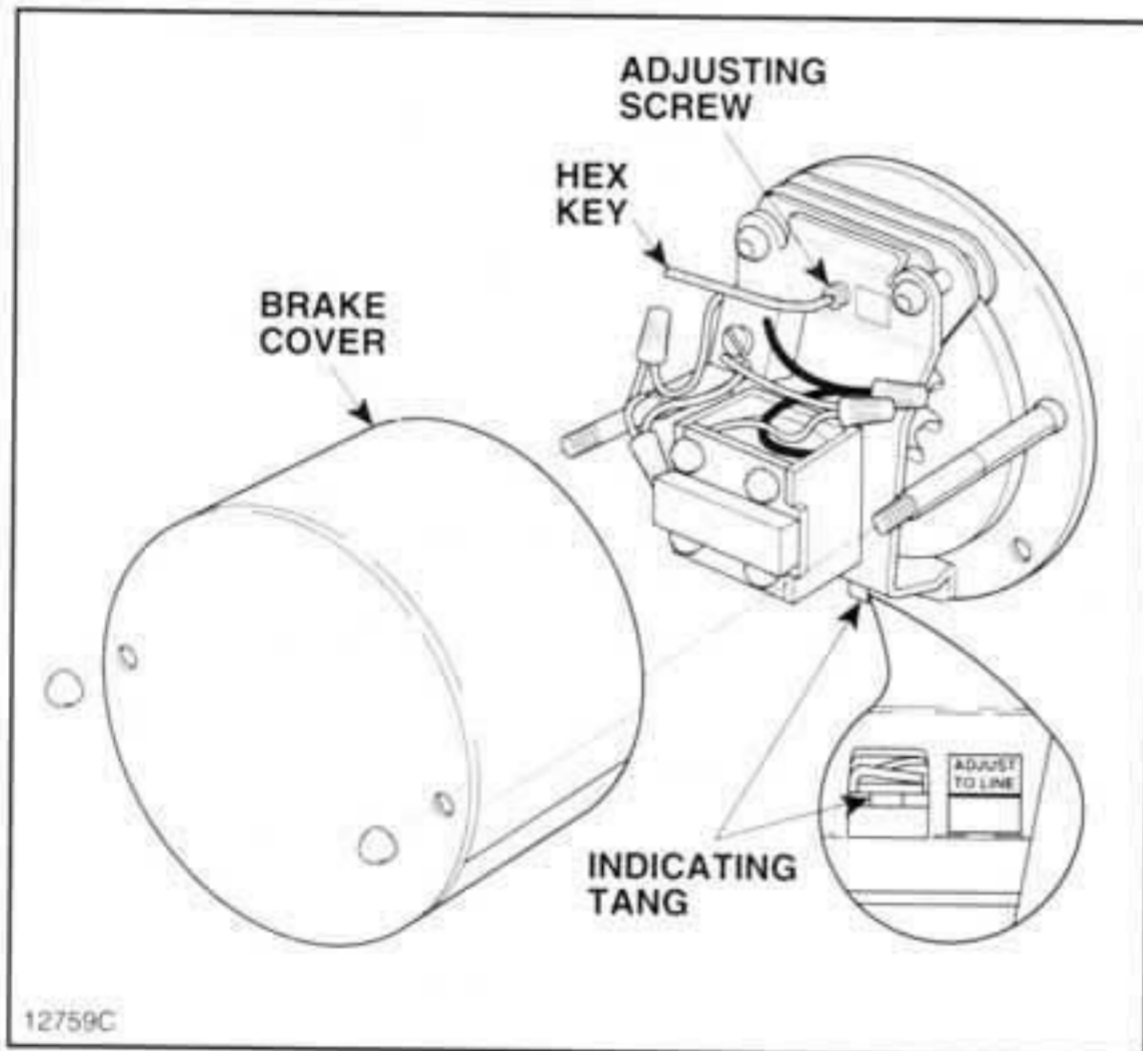

Figure 7-1A. Hoist Motor Brake - Later Version.
a. Examine position of indicating tang located below the solenoid coil (Figure 7-1A).
b. On the later version of the brake (Figure 7-1A), if the tang is below the line by more than 1/8", the brake should be adjusted to bring the top of the tang back up alongside the line on the adjust label.
c. Remove the hex key (1/8" size) from the holster on the cover mounting stud and carefully turn the ADJUSTING SCREW (located above the solenoid coil) clockwise. The indicating tang will move a large distance for a small turn of the adjusting screw, therefore turn the screw no more than one quarter turn before checking adjustment.